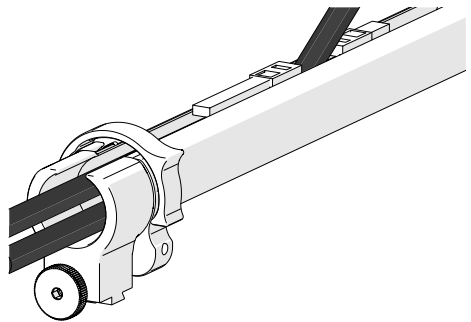

Fig. 80 - Flexibility
4. When necessary, the two zippers may be opened to allow cables to exit the sleeving anywhere between the ends (*Fig. 80*).